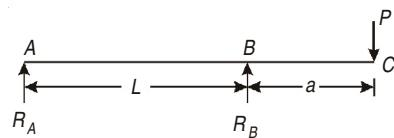

Fig. 4.29
- 4.3.** Determine the deflection at the end of the overhang for the beam *ABC* as shown in Fig. 4.29.